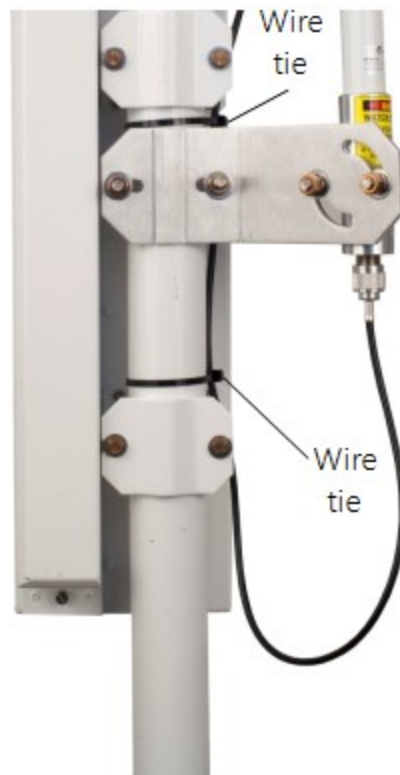

FIGURE 6-35. Wire tie locations for omnidirectional antenna installation
9. Use the following procedure to install the Yagi antenna for the radio. Installation of the omnidirectional antenna is similar (FIGURE 6-35 (p. 49)).